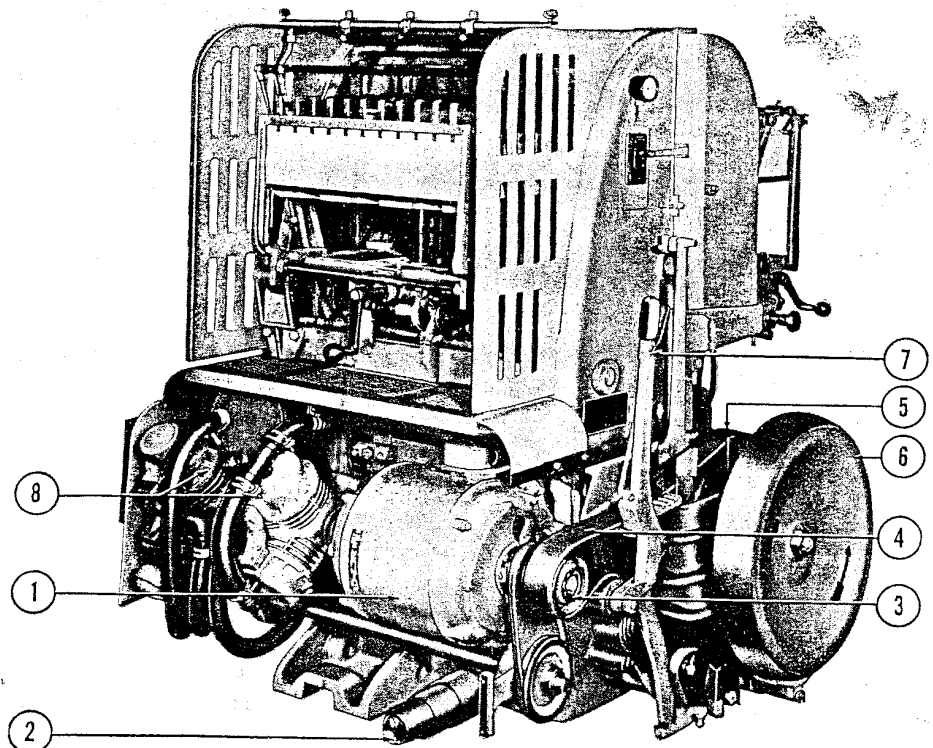

Figure 9—Drive and Air Pumps
g. **DRIVE.** (See figure 9.)—The V-50 press is driven by a 3 h.p. constant speed motor (1). Five speed-change pulleys (2) supplied with the press are easily installed on a motor drive shaft splined adaptor (3) and provide for press speeds of 3,000, 3,500, 4,000, 4,500 and 5,000 impressions per hour. A press driving belt (4) links the speed pulley directly with a flywheel pulley (5) which in turn is directly geared with the press main cam shaft. A heavy flywheel (6) attached to the flywheel pulley shaft insures smooth press operation. A belt tightener lever (7) provides for gradual starting or stopping of the press, while the drive motor is running, by flywheel braking and belt slacking adjustment.
**i. AIR SYSTEM.**—The blast and suction for the press are supplied from two diaphragm-type pumps, (8) figure 9, mounted at the delivery end of the press. The pumps are belt driven from a common drive shaft which is belt connected to the press motor drive shaft. The mounts for the pumps and motor are screw adjustable to maintain proper belt tension. The pumps require no lubrication, thereby reducing the possibility of oil entering the blast lines and staining the job being run.